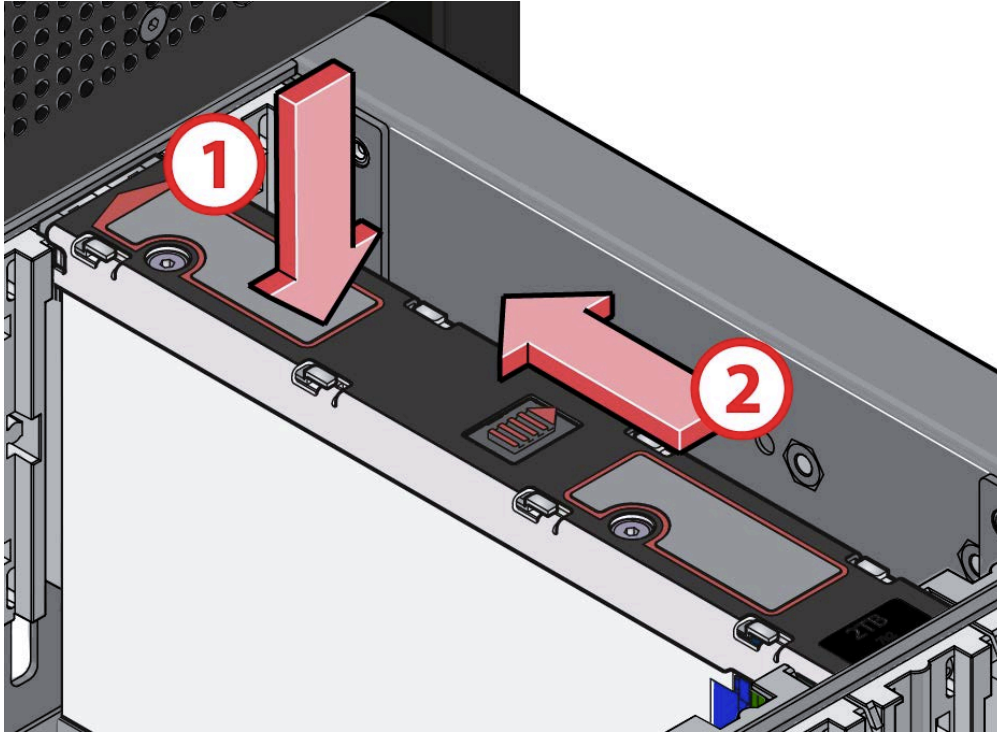

Figure 6. Installing a DDIC
2. Slide the top latch in the direction of the arrow until the latch clicks into place (see Figure 6).